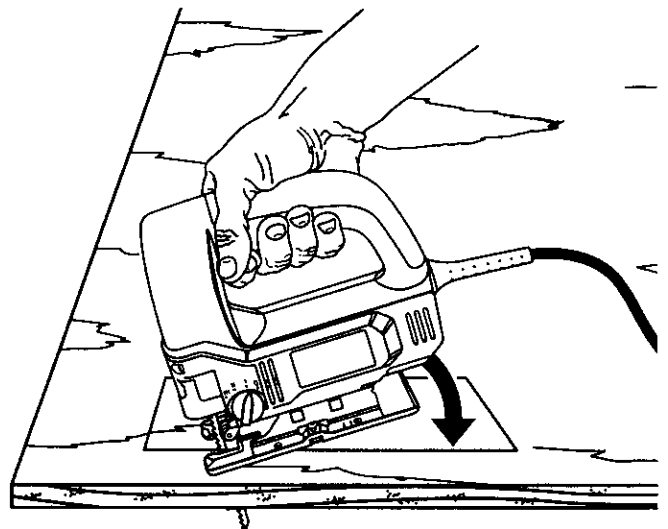

Fig. 10
See Figure 10.
- Using high speed, start your saw and slowly lower the blade into the workpiece until the blade cuts through the wood. See Figure 10.